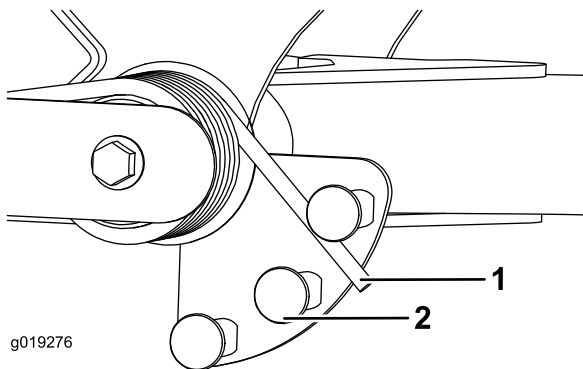

Figure 37
2. Insert a tube or similar object onto the long spring end and pivot it around the spring actuator to the desired position (Figure 37).